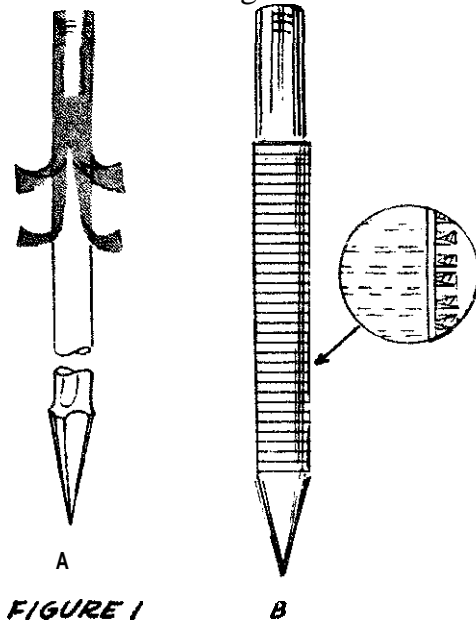

FIGURE 1
The dry bucket is held about **10cm** (several inches) above the ground, centered above the hole location and then dropped (see Figure 1). This drives a small amount of soil up into the bucket. After this is repeated two or three times, the bucket is removed, held to one side and tapped with a hammer or a piece of iron to dislodge the soil. The process is repeated until damp soil is reached and the bucket will no longer remove soil.
**Well** point and driving cap (see Figure 1):